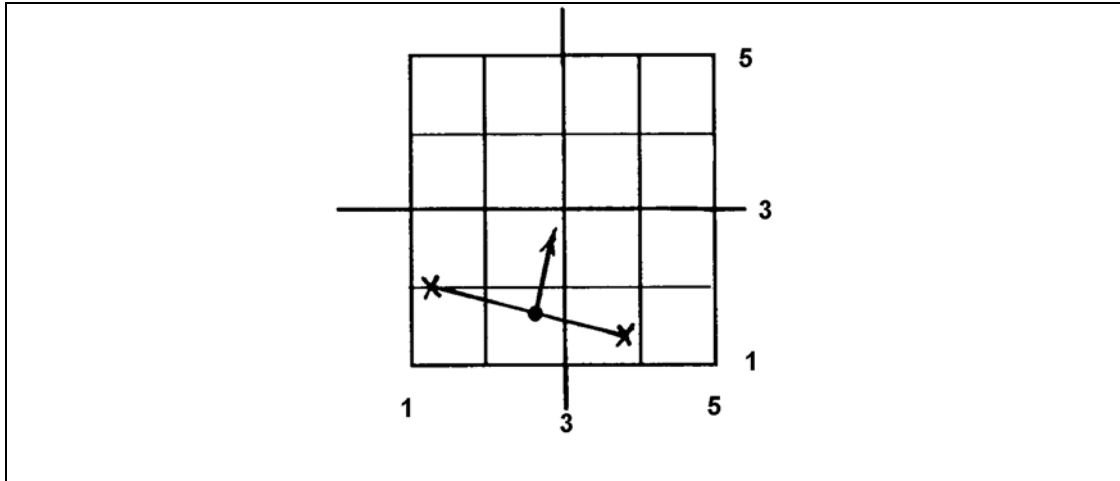

Figure B-23. Distance and direction from center.
- (12) Lay the gun on the estimated center of the panel.
- (13) Draw an arrow from the middle of the line to the center of the panel. The arrow shows the distance and direction of the gun to target center (Figure B-23, page B-17).